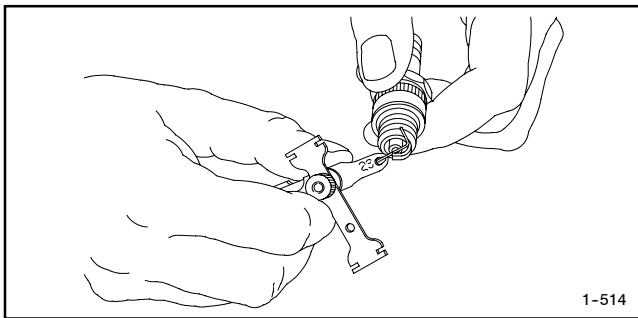
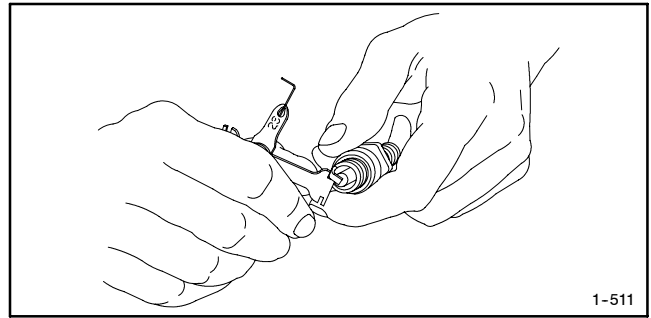

Figure 3-9 Checking the Spark Plug Gap
Figure 3-10 Adjusting the Spark Plug Gap
3. Check the spark plug gap using a wire feeler gauge. Adjust the gap to 0.76 mm (0.030 in.) by carefully bending the ground electrode. See Figure 3-9 and Figure 3-10.